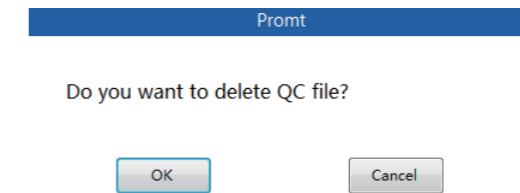

Figure 10.5.5-1
- When the file is selected, click “Delete” on the main menu and the confirmation dialog box pops out as Figure10.5.5-1shows.